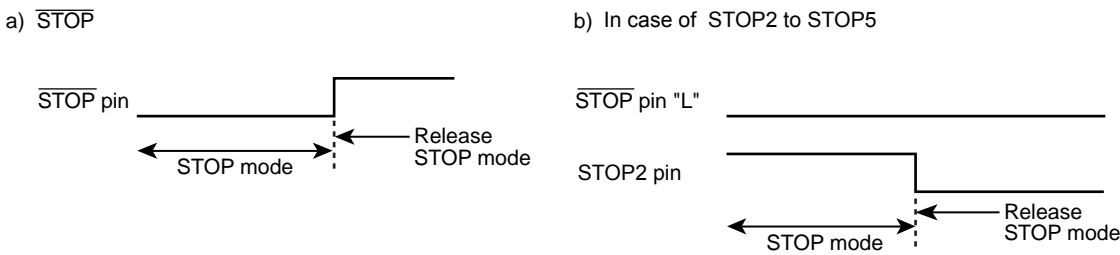

Figure 14-3 Priority of STOP pin and STOP2 to STOP5 pins
- Note 6: When the STOP mode is released by STOP2 to STOP5 pins, the level of $\overline{\text{STOP}}$ pin should hold "L" level (Figure 14-3).